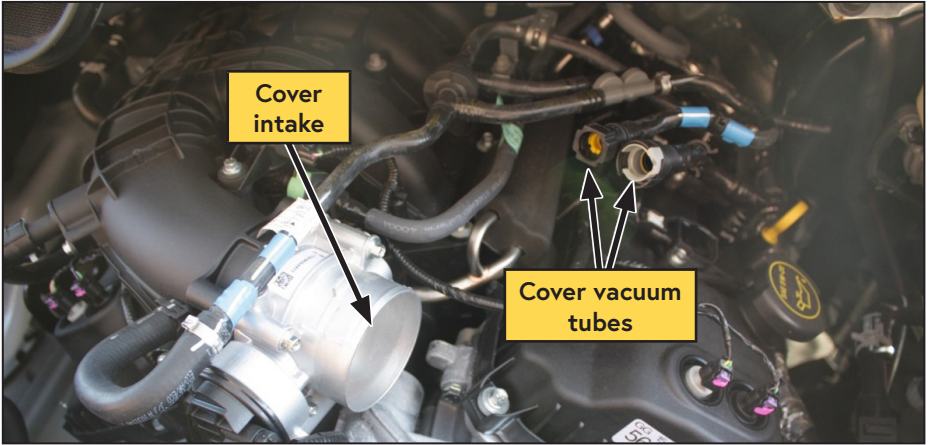

Figure 10 — Cover all intake tubes
- Cover the engine intake, air filter, and vacuum tube openings to prevent contaminants from entering the engine's intake system (Figure 10).